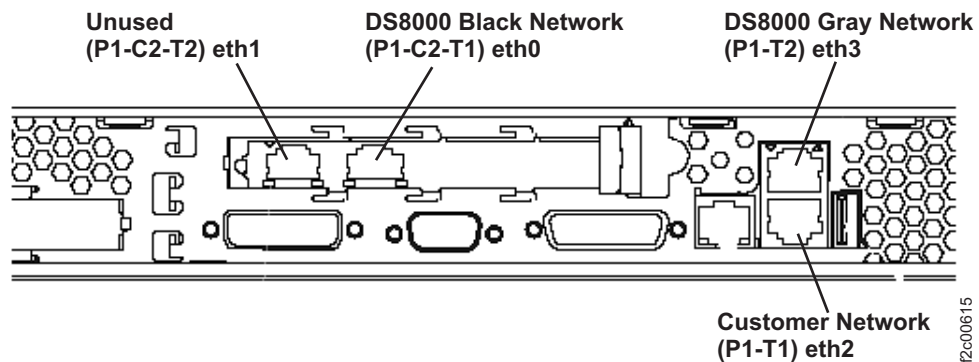
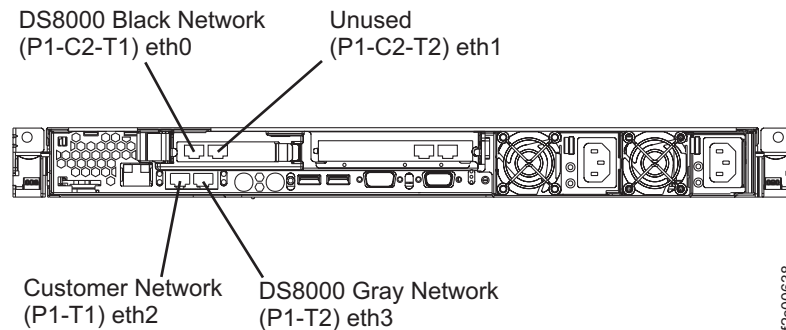

Figure 51. Ethernet connectors on the rear of the X335 management console server
Figure 52. Ethernet connectors on the rear of the X336 management console server
- c. Connect the cable to the customer Ethernet port (eth2) on the management console server. Refer to Figure 51 (X335 server) or Figure 52 (X336 server).